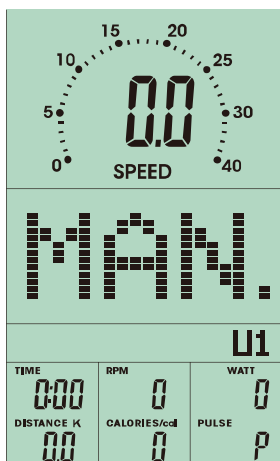

FIGURE 8
1. Program selections are MANUAL → PROGRAM → USER PROGRAM → H.R.C. → WATT (FIGURE 8~12)